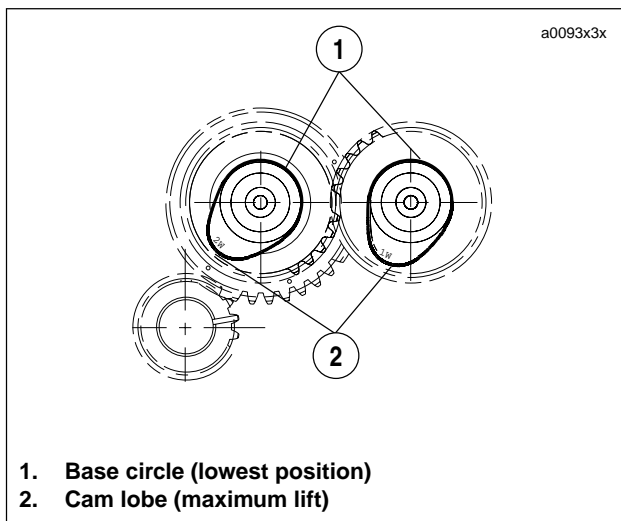

Figure 3-101. Base Circle
1. See Figure 3-101. Rotate engine so that both lifters will be installed on the base circle of the cam.